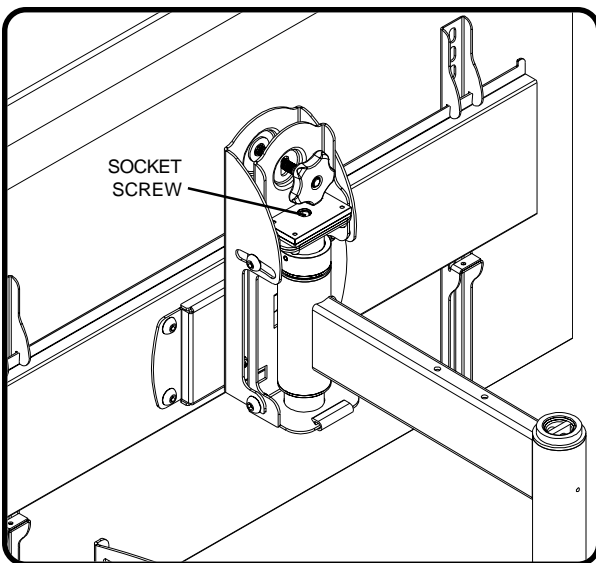

**fig 9.1**
**9-1** If it is too difficult to adjust roll of plasma, loosen screws shown in figure 9.1 using a phillips screwdriver.